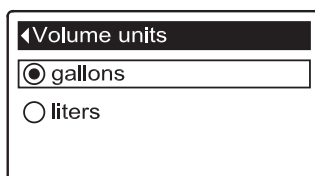

FIG. 51
5. Press the SELECT (O) button to display the Volume units menu (See Figure 51).
6. If the desired volume unit already has a black dot next to it (See Figure 51), go to Step 7. Otherwise, press the DOWN (▼) or UP (▲) buttons to scroll to the other volume unit, then press SELECT (O) to choose it.
7. Press the SELECT (O) button. The display will go back to the User preferences menu.